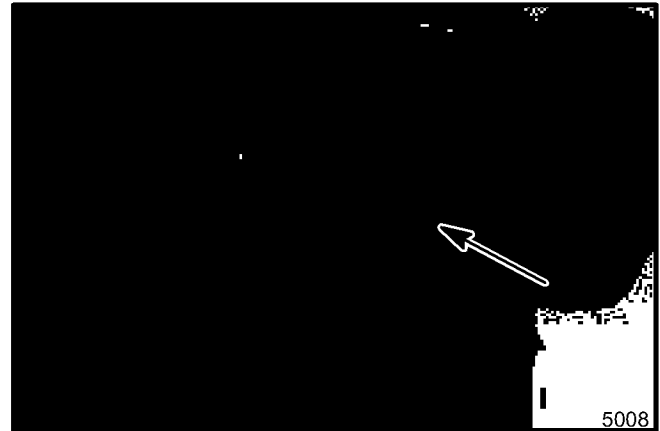

Figure 5. Installing Belt Shield
10. Install the belt shield under the frame. Secure it with one 5/16-18 x 3/4 screw and lockwasher (see figure 5).